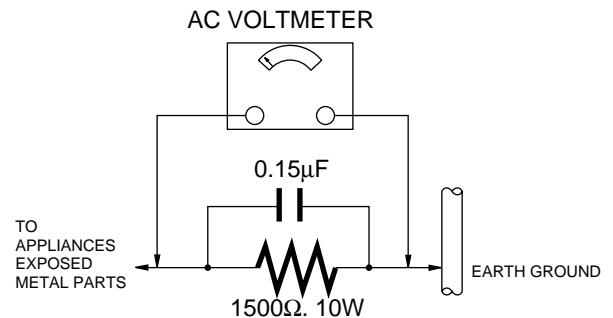

Figure 1
2. Connect a 1.5K ohms, 10 watts resistor, in parallel with a 0.15 micro farad capacitor, between each exposed metallic part on the set and a good earth ground , as shown in Figure 1.